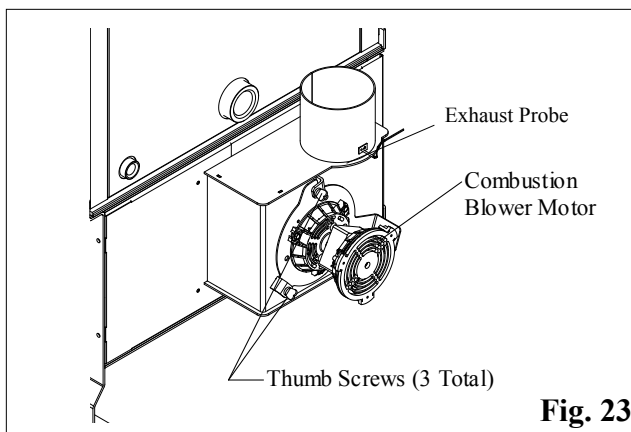

Fig. 23
Loosen the three (3) thumb screws about 4 turns each. See Fig. 23. Hold the motor head with one hand and the blower plate handle with the other hand. Pull outward on the plate handle until the complete unit comes loose. Now rotate the plate counter-clockwise about 1/8 turn. This will allow the complete assembly to be removed from the blower chamber.
NOTE: *The exhaust probe sensing tip extends into this same area. CARE MUST BE TAKEN NOT TO DAMAGE THE ESP DURING CLEANING. Bending of the ESP will make it difficult to remove if it should become necessary. See Fig. 23.*